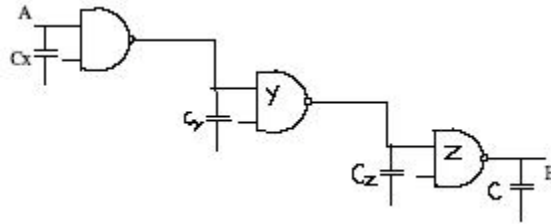

Fig 23.22: Example Circuit
**Example of Minimizing delay:** Consider the path from A to B involving three two input NAND gates as in fig 23.22. The input capacitance of first gate is **C** and the load capacitance is also **C**. Find the least delay in this path and how should the transistors be sized to achieve least delay?